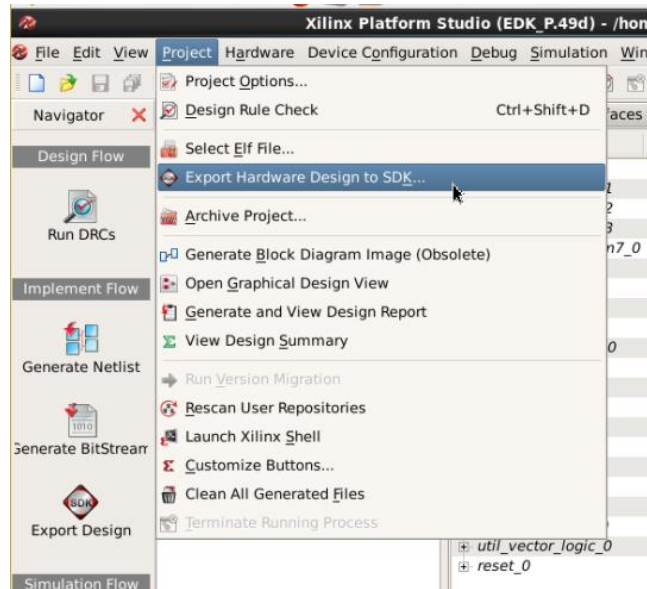
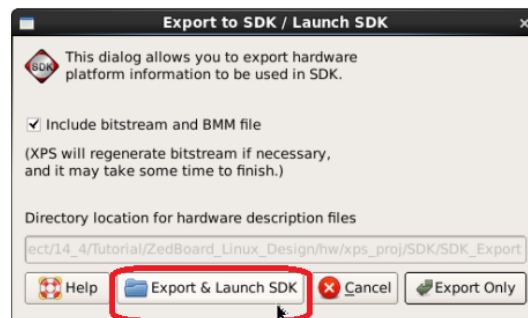

Figure 27. Export Hardware Design to SDK
Figure 28. Export and Launch SDK
**III-1** Export the hardware design (after step I-21) to Xilinx SDK by clicking on **Project -> Export Hardware Design to SDK...**, as shown in Figure 27. In the pop-up window, click **Export and Launch SDK**, as shown in Figure 28.